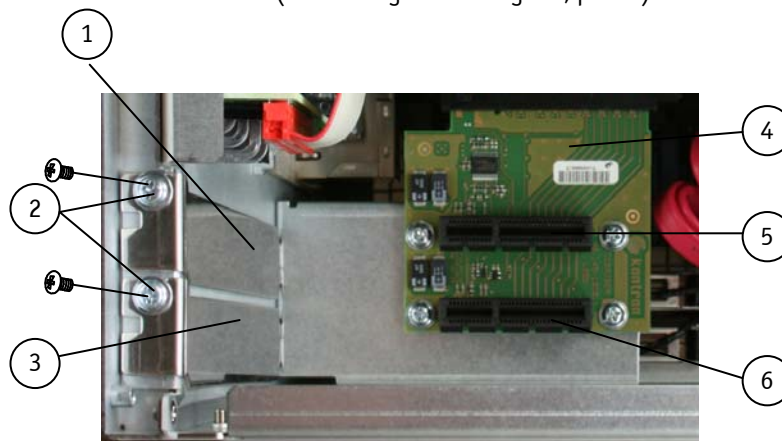

Fig. 34: Detail inside of the KBox C-101 with PCIe Riser card for 2x PCIe x4 slots
3. To remove/install an expansion card, you have to remove the corresponding expansion card/slot bracket (refer to Fig. 10 and Fig. 34). Loosen the corresponding fastening screw on the internal side, which secures the slot/card bracket and remove it. Retain the screws for later use (refer to Fig. 10 and Fig. 34, pos. 2).
4. Insert/remove the expansion card into/from the corresponding free PCIe x4 slot of the Riser card (Fig. 34).